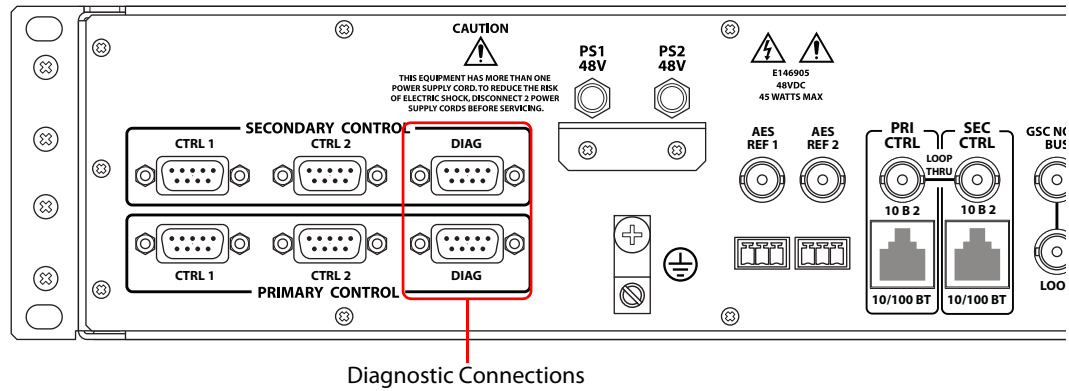

Fig. 1-6: Diagnostic Connections (Rear View)
Diagnostic connections connect the EC9535 to the computer (PC) running the UniConfig application. Two diagnostic connections are located on the rear of the EC9535, labeled 'DIAG'. The ports are divided into two sets: one primary and one secondary, as shown in Figure 1-6 on page 5. The primary control connects to EC9535's primary control card. The secondary control